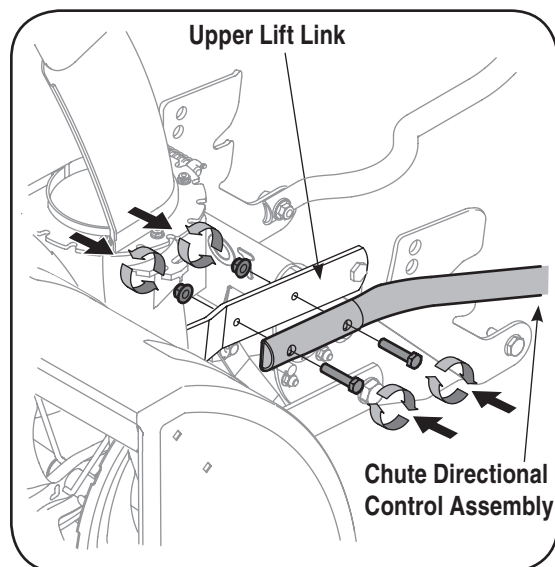

Figure 25
2. Attach the chute directional control assembly to the upper lift link on the left side of the auger housing assembly with two hex screws as illustrated in Figure 25. Secure with two flange nuts.